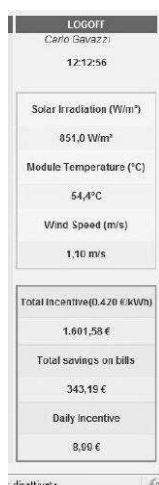

Fig 4
- 4 On the right hands (Fig.4). Environment and Economic information such as:**